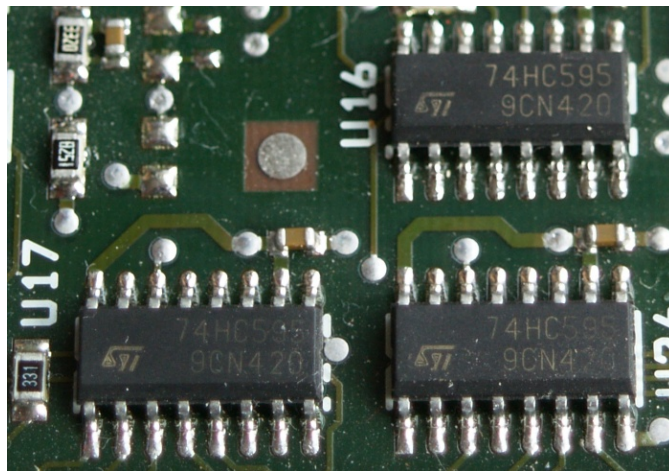

Figure A.1: Three Surface-Mounted Integrated Circuits
*Logisim-Evolution* includes a number of Transistor-Transistor Logic (TTL) ICs. These are pre-packaged digital logic circuits that perform specific, well-defined functions. There are, literally, hundreds of TTL ICs available for purchase from electronics warehouses but *Logisim-Evolution* includes only 35 of the most commonly-used devices. Figure A.1 shows three surface-mounted ICs on a circuit board.